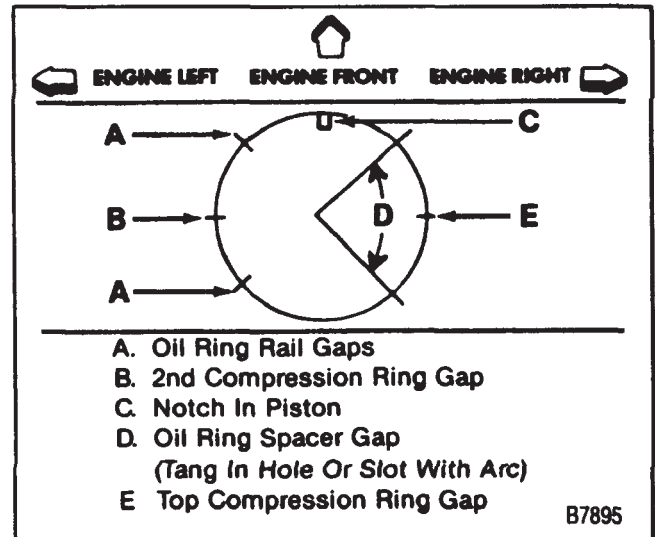

Figure 46—Piston Ring End Gap Locations
- Locate the piston ring end gaps as shown in figure 46. Lubricate the piston and rings with engine oil.
- The piston must be installed so that the notch in the piston faces the front of the engine (figure 46).